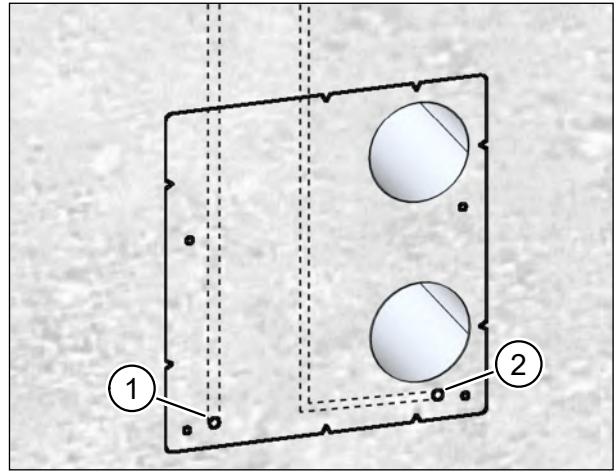

Fig. 21: Chasing wall channel for the mains cable and control cable (if used)
- ▶ Chase out a wall channel for the mains cable starting from the cable passage (item 1 in Fig. 21).
- ▶ Chase out a wall channel for the control cable (if used) starting from the cable passage (item 2 in Fig. 21) (only for ventilation units with a control cable connection, see Table 4 on page 29).